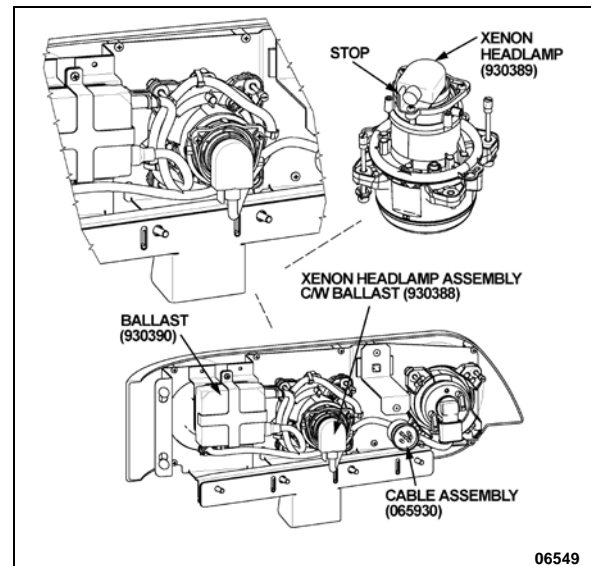

FIGURE 53: XENON HEADLAMP LOCATION
- The inspection limits for high-beam headlights shall be with the center of the high-intensity zone from 10 cm (4 in) up to 10 cm (4 in) down; and, from 10 cm (4 in) left to 10 cm (4 in) right on a screen at 7.6 m (25 ft) (Figure 53).